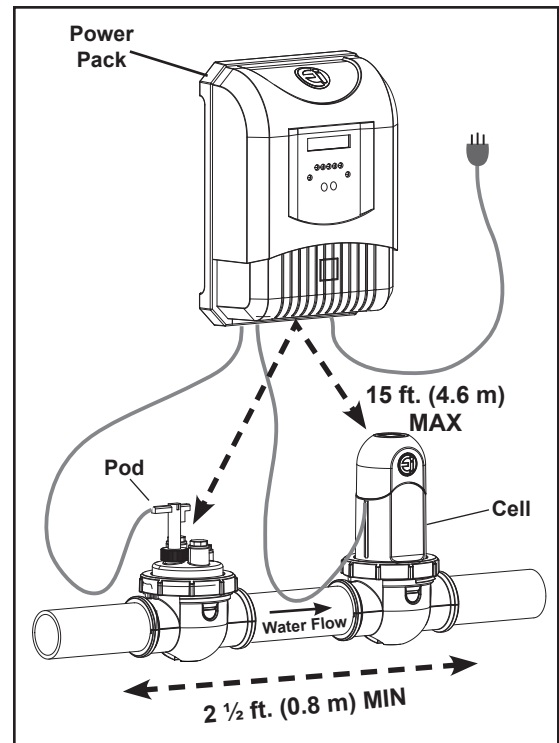

Figure 3. Installation Requirements
It is required that the water flow pod is installed in the same piping as the electrolytic cell, without any valves or diverters between them (see Figure 3).
The flow pod must be mounted as shown in Figure 3.
- The cell must be installed on a 2 ½ ft. (0.8 m) horizontal length of pipe after the heaters, pumps, and filters, as the last piece of equipment in the plumbing system (see Figure 3).
- The cell and pod must be installed no more than 15 ft. (4.6 m) from the power pack (see Figure 3).